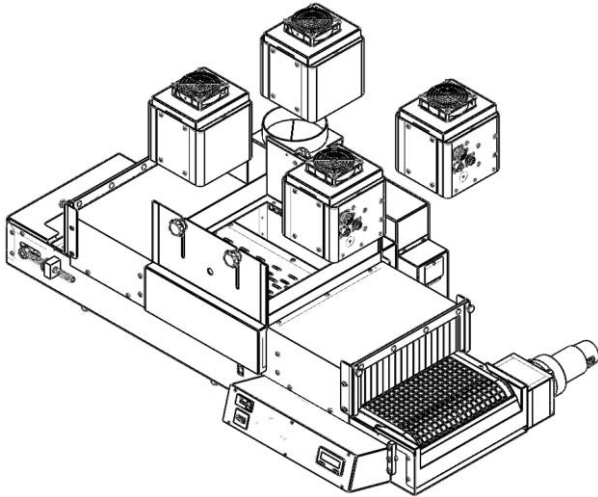

Figure 2. Remove Reflectors
2. Remove the Reflector Assembly(s) from the Conveyor Cradle (Figure 2).